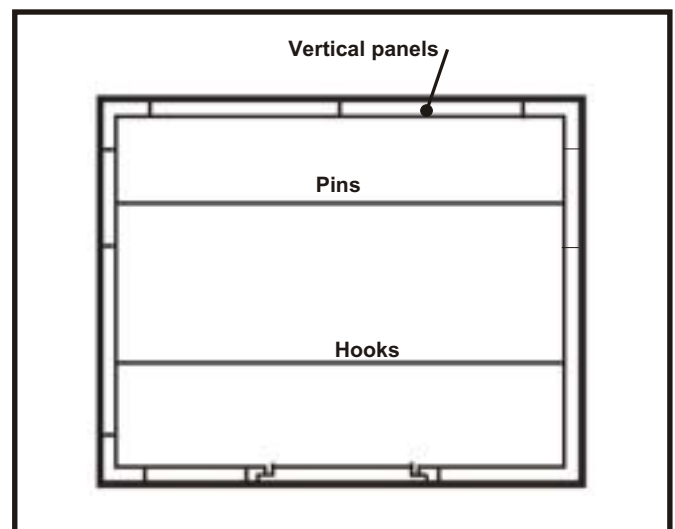

Fig. 16
- A. Continue to follow the plan view carefully; this is critical for proper assembly and possible future expansion. The Bally plan view will show the end ceiling panels and the location of hooks and pins. (See Fig. 16.)